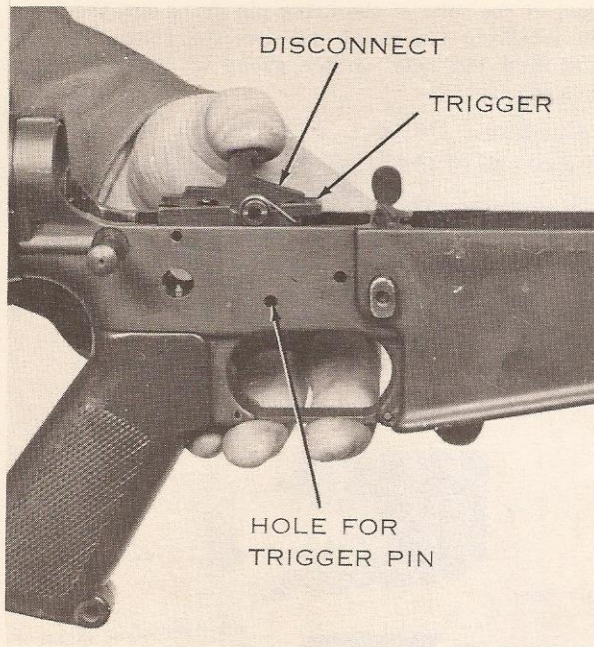
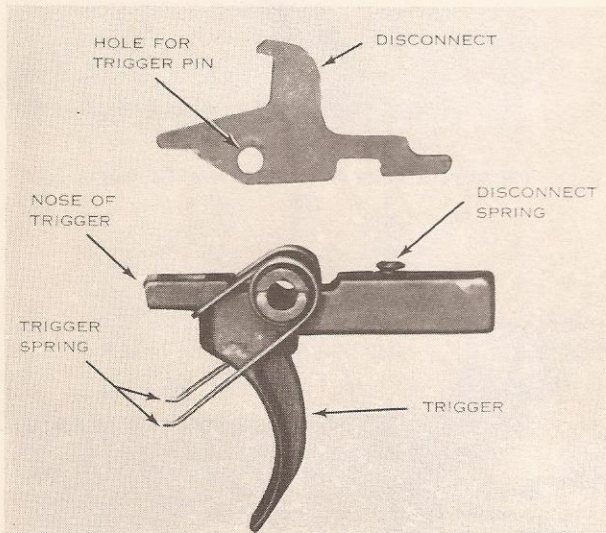

Figure 23. Removing the trigger and disconnect.
Figure 24. Trigger and disconnect separated.
**Caution:** The trigger and disconnect will jump out of the receiver under pressure of the trigger spring. Hold the trigger down with the thumb of the left hand when removing the trigger pin. Once the pin is removed, let the trigger rise slowly until no pressure is felt (fig. 23). Lift the trigger and disconnect out of the receiver and separate (fig. 24).